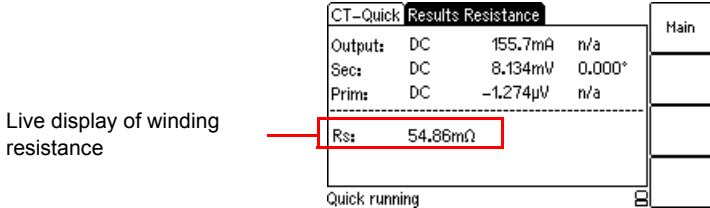

Figure 10-18: **Results** test card for resistance measurement
- 4. Start the measurement by pressing the  key on *CT Analyzer* or clicking the **ON** button on the **Resistance** tab of the *CT Analyzer Quick Test* software tool. The measured values are displayed and permanently updated as long as the measurement is active. Refer to Figure 10-18.